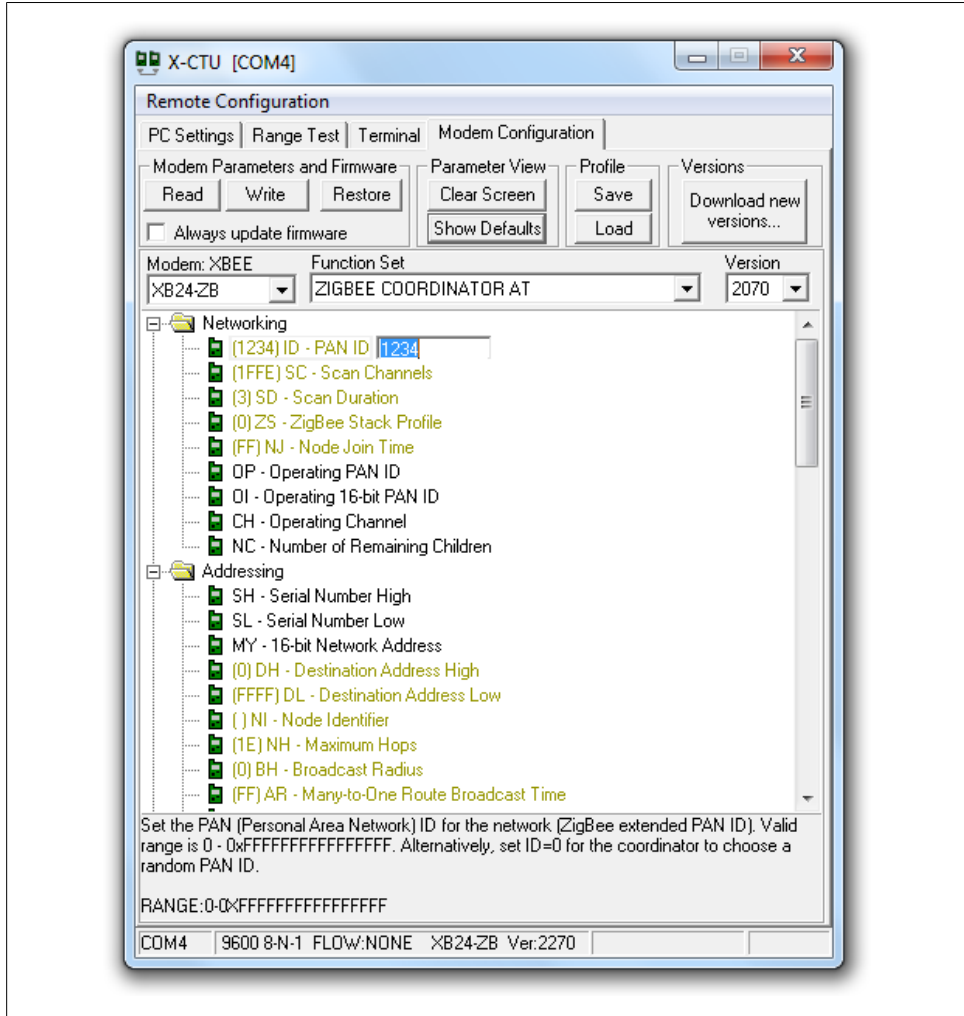

Figure 14-5. Configuring the XBee
If you have trouble getting your XBees to talk, make sure they both have the same type of firmware (e.g., XB24-ZB under the Modem: XBEE setting shown in Figure 14-5), and that they are both running the most current version of the firmware (the Version setting shown in Figure 14-5). For a comprehensive set of XBee troubleshooting tips, see Robert Faludi's "Common XBee Mistakes" at <http://www.faludi.com/projects/mon-xbee-mistakes/>. For extensive details on working with XBees, see his book, *Building Wireless Sensor Networks*, published by O'Reilly.
6. Change the PAN ID setting from 0 to 1234 (or any hexadecimal number you want, as long as you use the same PAN ID for all devices on the same network), as shown in Figure 14-5.